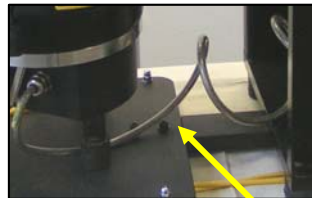

FIG 4
6. Connect the Hopper to the Feeder using the fasteners provided. (FIG 4)